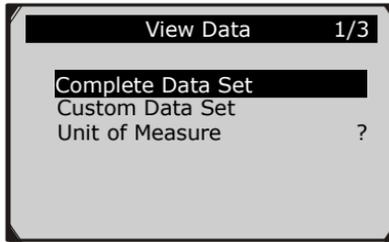

Figure 5.13
- 1) To view customised PID data, use the **UP/DOWN** scroll button to select **Custom Data Set** from **View Data** menu and press the **OK** button. (Figure 5.13)